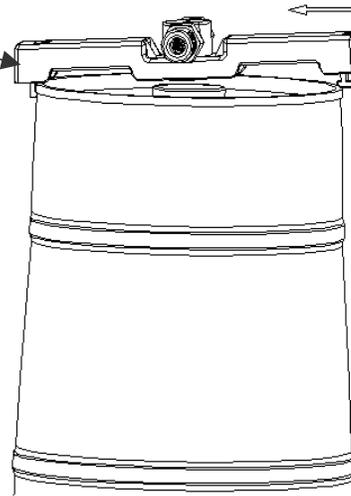

Figure 27
5. Disconnect the piercing pin from the keg (see figure 27).